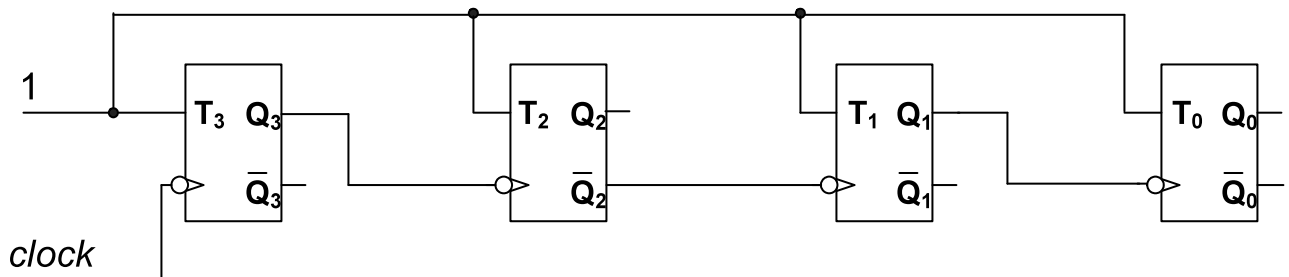

Figure 6 - Circuit for question 11 (note, the flip-flops are *negative edge* triggered).
11. In Figure 6, if the current state is $Q_3Q_2Q_1Q_0=1001$, then after the next *negative edge* of the *clock* signal the new state will be: